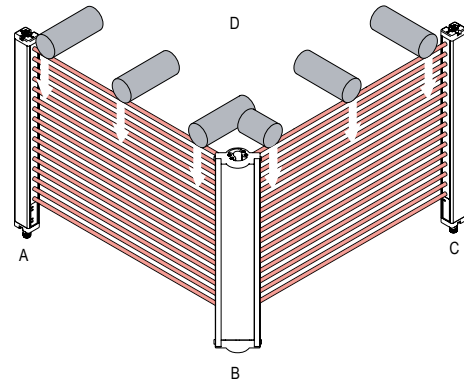

Figure 15. Trip Test with corner mirror
5. If mirrors are used in the application: Test the defined area on each leg of the sensing path (for example, emitter to mirror, between mirror and receiver, see Figure 15. Trip Test with corner mirror on page 33).